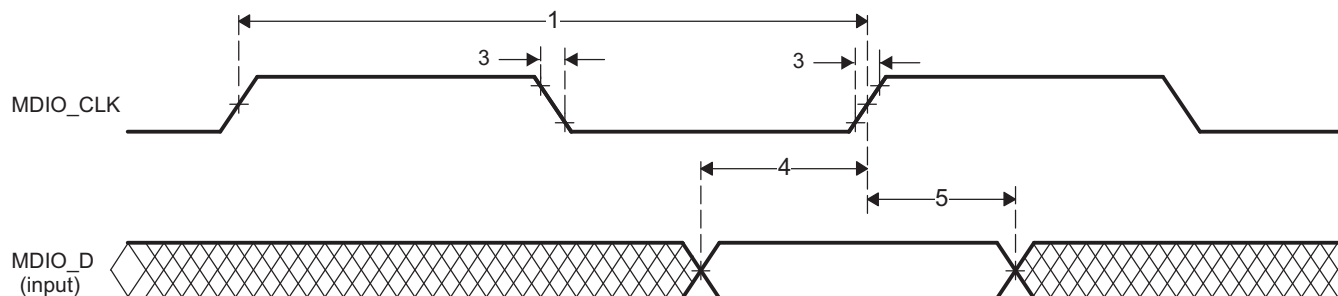
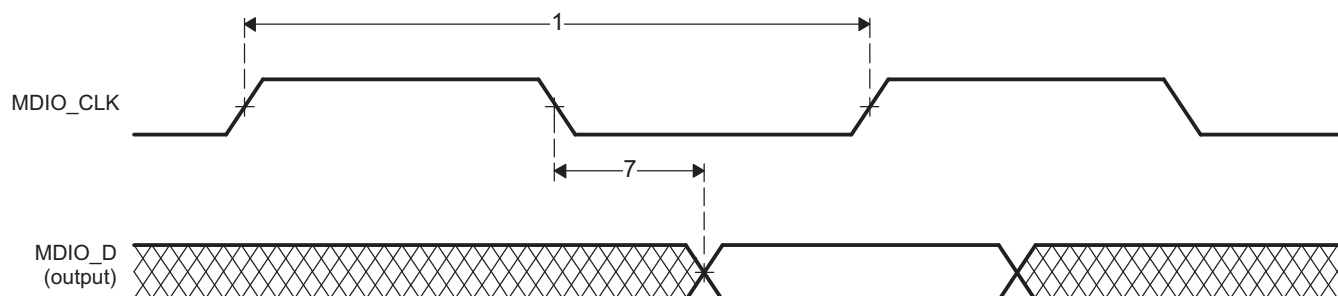

Figure 6-26. MDIO Input Timing
Figure 6-27. MDIO Output Timing
**Table 6-38. Timing Requirements for MDIO Input (see Figure 6-26 and Figure 6-27)**
(see Figure 6-27)